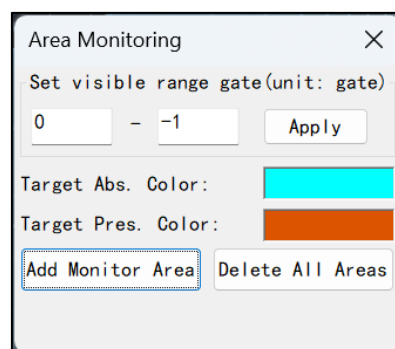

Figure 4-8 Area Monitoring window
Step 2: Click the **Area Monitoring** button, a new window will appear, as shown in Figure 4-8, descriptions of the window are as follows: